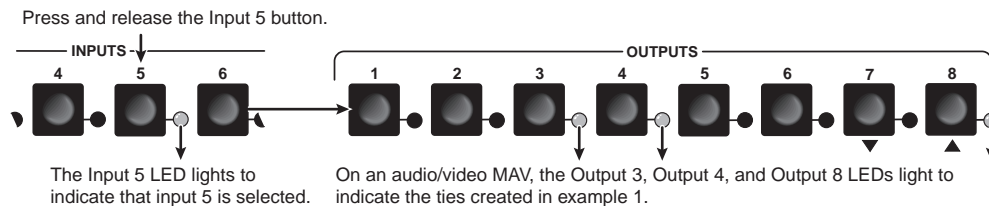

Figure 3-15 — Select an input
2. Press and release the Input 5 button (figure 3-15).